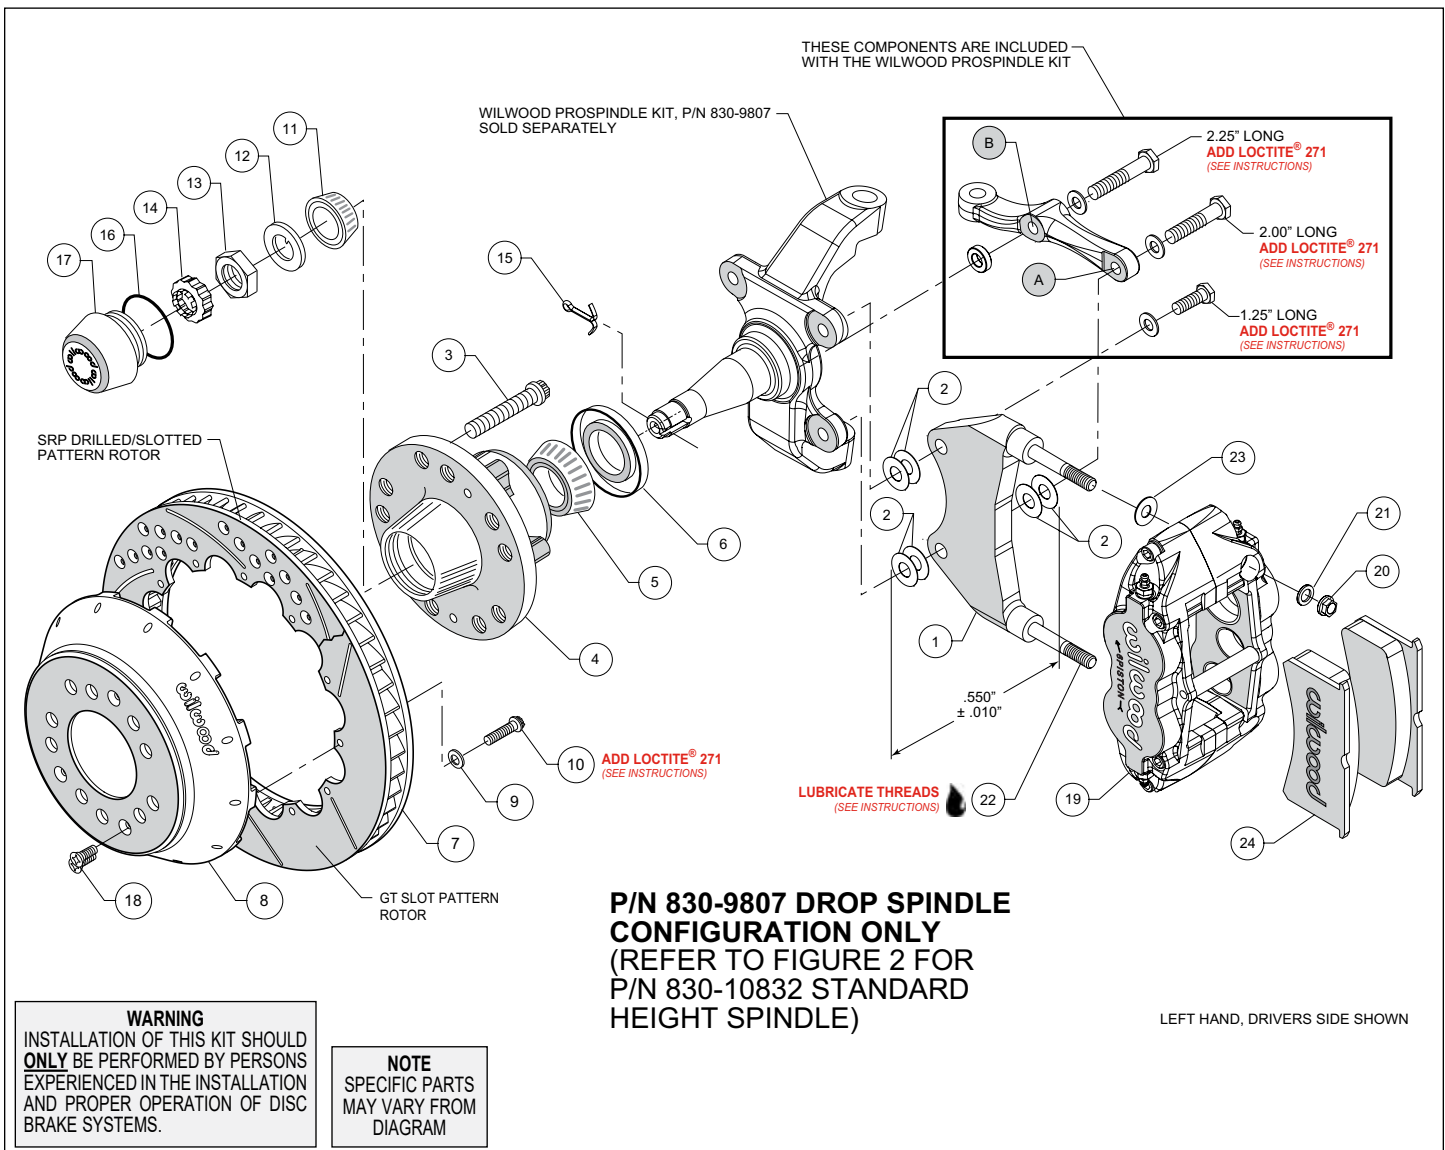
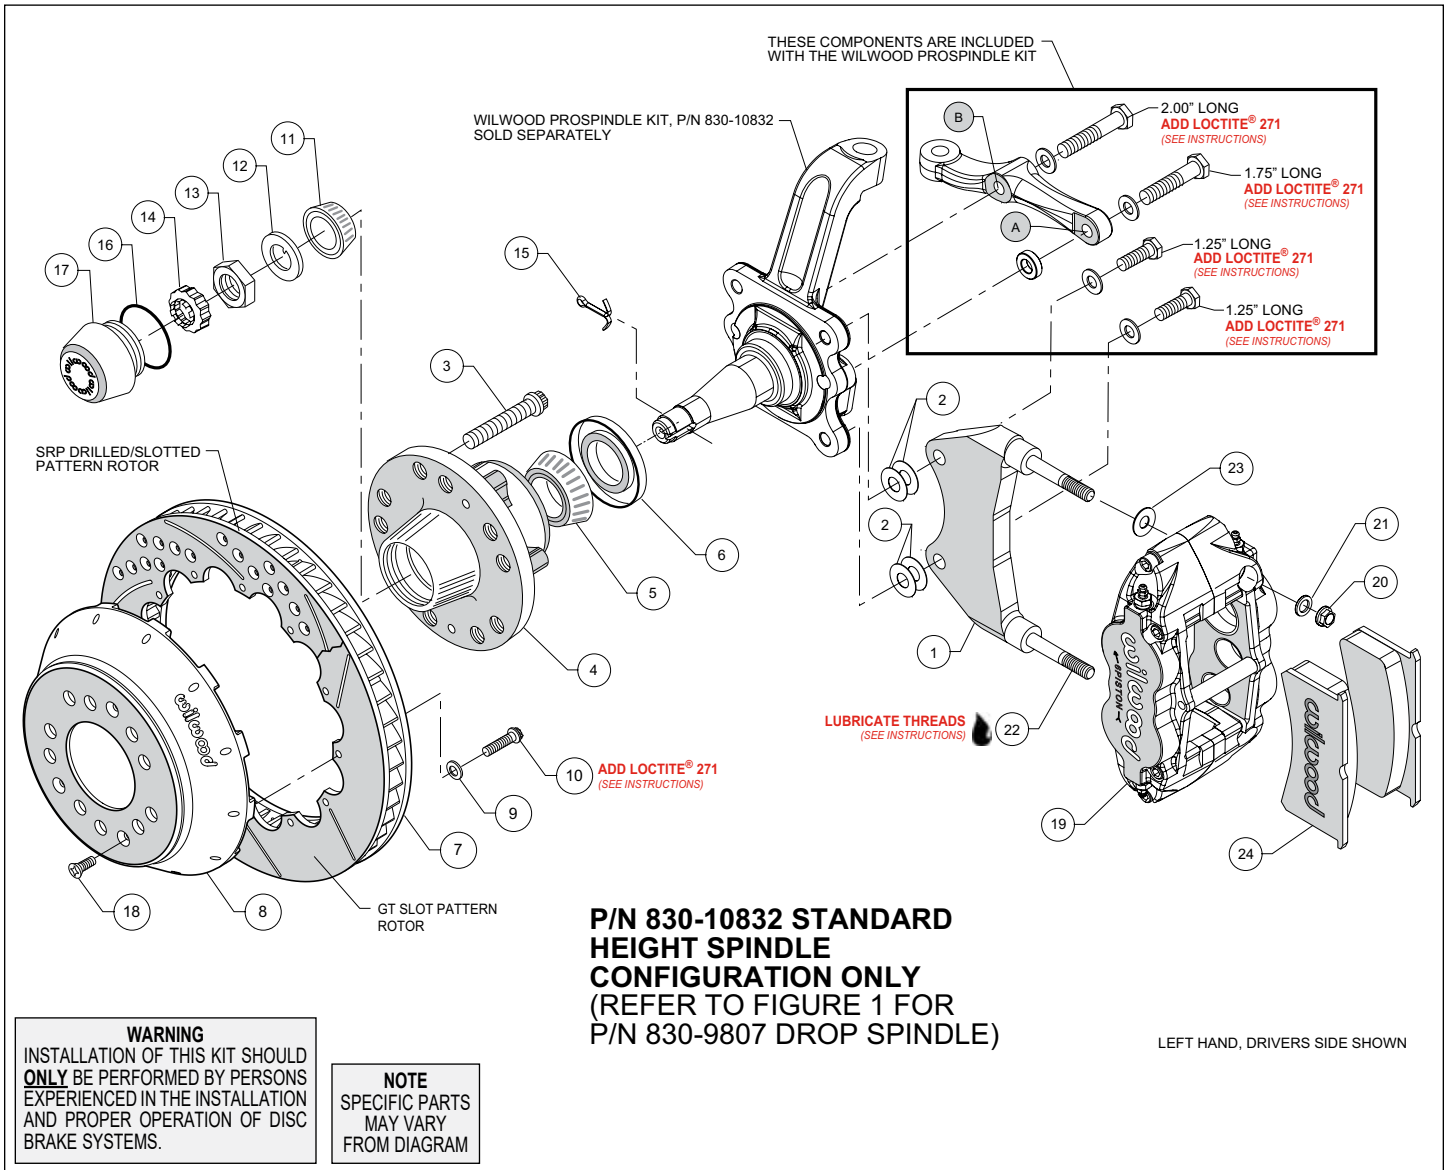
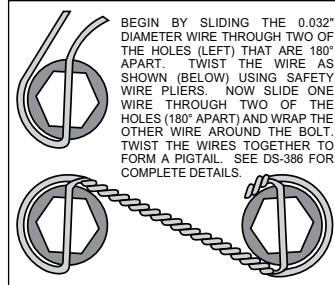

Figure 1. Installation Configuration For Drop Spindle, P/N 830-9807
Figure 2. Installation Configuration For Standard Height Spindle, P/N 830-10832
Figure 4. Safety Wire Diagram
**NOTE:** Numbers in parenthesis refer to the parts list and Figure 1 on the preceding pages.
**•NOTE:** Each Wilwood ProSpindle kit includes bolts, washers, and a spacer to mount the steering arm and caliper bracket. The various bolts are identified by length in the following instructions and in Figures 1 and 2.
**For 2" Drop ProSpindle (P/N 830-9807):** The caliper bracket assembly (1) should initially be installed with clean, dry threads on the mounting bolts.
- Orient the bracket as shown in Figure 1 and Photo 1. Install at top spindle hole using 1.25" long bolt and .06" thick washer (from ProSpindle kit), and two .016" thick shims (2) between the bracket and spindle, Figure 1.
- Orient the steering arm, and identify the hole marked 'A', as shown in Figure 1. Install at bottom spindle hole using 2.00" long bolt and .06" thick washer (from ProSpindle kit), two .016" thick shims (2) between the bracket and steering arm, and another two .016" thick shims (2) between the bracket and spindle, Figure 1. The bracket is located between the steering arm and spindle. **NOTE:** The bracket and shim washers must add up to a total thickness of .550" ± .010", Figure 1.
- Finish attaching the steering arm through the hole marked 'B', as shown in Figure 1. Install using 2.25" long bolt, .06" thick washer, and .25" thick spacer (all from ProSpindle kit), Figure 1.
**For Standard Height ProSpindle (P/N 830-10832):** The caliper bracket assembly (1) should initially be installed with clean, dry threads on the mounting bolts.
- Orient the bracket as shown in Figure 2 and Photo 2. Install using 1.25" long bolts and .06" thick washers (from ProSpindle kit), and two .016" thick shims (2) on each bolt between the bracket and spindle, Figure 2. Temporarily tighten mounting bolts. **NOTE:** The bracket must fit squarely against the mounting points on the spindle. Inspect for interference from casting irregularities, machining ridges, burrs, etc. Later, after the caliper alignment has been checked, the mount bolts will be secured using red Loctite® 271.
- Orient the steering arm, and identify the hole marked 'A', as shown in Figure 2. Install using 1.75" long bolt, .06" thick washer, and .30" thick spacer (all from ProSpindle kit), Figure 2.
- Finish attaching the steering arm through the hole marked 'B', as shown in Figure 2. Install using 2.00" long bolt and .06" thick washer (from ProSpindle kit), Figure 2.
- Screw dust cap (17) into hub (4). Friction created by the o-ring (16) on the dust cap keeps it from unscrewing.
- Orient the rotor (7) and the hat (8) as shown in Figures 1 or 2, and Photo 6. Attach rotor to hat using bolts (10) and washers (9). Using an alternating sequence, apply red *Loctite*® 271 to the threads, and torque to 155 in-lbs. For an added measure of security, the bolts may be safety wired using standard 0.032 inch diameter stainless steel safety wire as shown in Figure 4. Refer to Wilwood's data sheet DS-386 (available at [www.wilwood.com/Pdf/DataSheets/ds386.pdf](http://www.wilwood.com/Pdf/DataSheets/ds386.pdf)) for complete safety wire installation instructions.
- Slide the hat/rotor assembly (8 and 7) onto the hub (4) taking care to align the small countersunk holes in the hat with the small threaded holes in the hub. **NOTE:** The hat must fit flush against the hub face or excessive rotor run out may result. Install three flat head screws (18) through the small holes in the hat (8), and torque to 85 in-lb.
- NOTE:** This kit contains distinct right and left hand calipers that must be mounted in a specific direction, as described below. Lubricate the caliper mounting studs (22) with lightweight oil. Initially place one .035" thick shim (24), and spacer (23) on each stud as shown in Figure 1 or 2, and Photo 7. Mount the caliper (19) onto the bracket (1) using lock nuts (20) and washers (21), Figure 1 or 2. Ensure that the caliper is mounted so that the largest pistons are at the rotor exit end of the caliper, in relation to the direction of rotor rotation. Temporarily tighten the lock nuts and view the rotor through the top opening of the caliper. The rotor should be centered in the caliper, Photo 8. If not, proceed as follows:
- Adjust by adding or subtracting shims (2) between the bracket and the spindle. Always use the same amount of shims on each of the two bolts between bracket and spindle.
- For the lower bracket mount bolt, if a shim was added between the bracket and spindle, then a shim must be removed between the steering arm and bracket, such that the total thickness of bracket and shims remain equal to  $.550 \pm .010$ ", Figure 1.